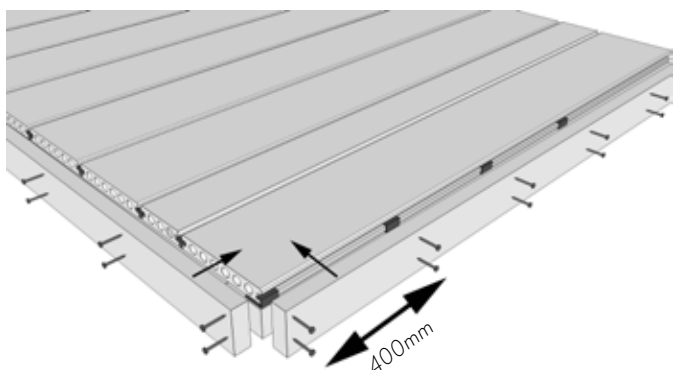

Figure 14
- 1 Install the floor edge board as shown in Figure 14: